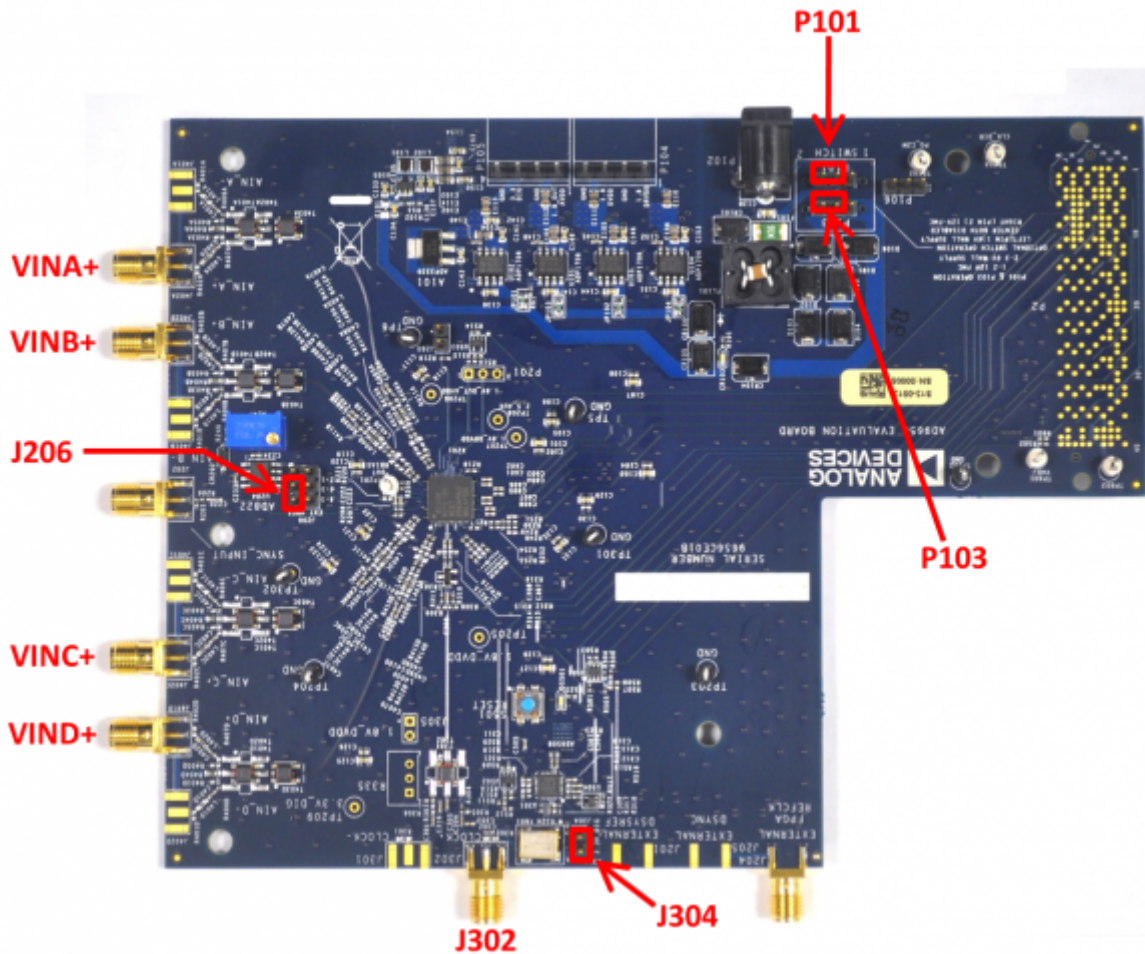

Figure 2. Default Jumper Connections for *AD9656EBZ* Board
2. On the ADC evaluation board, confirm that the jumpers are installed as shown in Figure 2.
Set the jumper settings/link options on the evaluation board for the required operating modes before powering on the board. The functions of the jumpers are described in Table 1. Figure 2 shows the default jumper settings.
J206	<p>This jumper selects between internal <math>V_{REF}</math> and external <math>V_{REF}</math>. To choose the ADC's internal reference, connect Pin 3 (DUT_SENSE) to Pin 5 (GND) as shown in Figure 2. The default value of the internal reference is 1 V. SPI Register 0x18 Bits[7:6] can be used to program the internal reference voltage to values from 1 V to 1.4 V, in 0.1 V increments. Register control is accomplished with SPIController software, which is discussed below in the Setting up the SPI Controller Software section.</p> <p>To use the on-board <a href="#">AD822</a> buffered reference, connect Pin 2 (DUT_SENSE) to Pin 1 (AVDD), and connect Pin 4 (DUT_VREF) to Pin 6 (EXT_REF). Adjust external VREF to the desired value (from 1.0 V to 1.4 V) using potentiometer R247.</p> <p>To apply a reference voltage from an external off-board source, connect Pin 2 (DUT_SENSE) to Pin 1 (AVDD) and apply the reference voltage to Pin 4 (DUT_VREF). The AD9656 reference voltage is specified to be from 1.0 V to 1.4 V.</p>